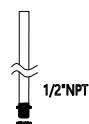

Figure 6
1. Secure with Lock Nut: For safety, use a lock nut. After screwing the conduit or pipe into the fixture, tighten the lock nut firmly against the fixture. (See Figure 6 and 7)